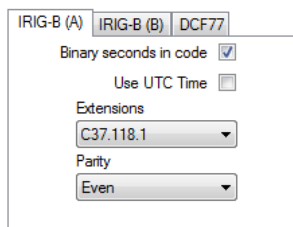

Figure 29 - IRIG-B sub-tab with multiple streams
Note: On Clocks which support multiple IRIG-B streams, two sub-tabs which are labelled “IRIG-B (A)” (IRIG-B Stream A) and “IRIG-B (B)” (IRIG-B Stream B) will appear. Refer to Figure 29. Under “Payload” in the individual port settings, the user will be able to configure the port to use either IRIG-B stream.